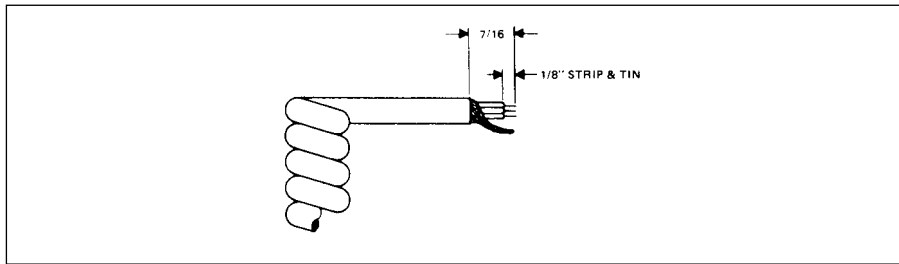

Fig. 2. Microphone Cable Preparation.
1. Cut leads so that they extend 7/16" (11 mm) beyond the plastic insulating jacket of the microphone cable (see Fig. 2.)